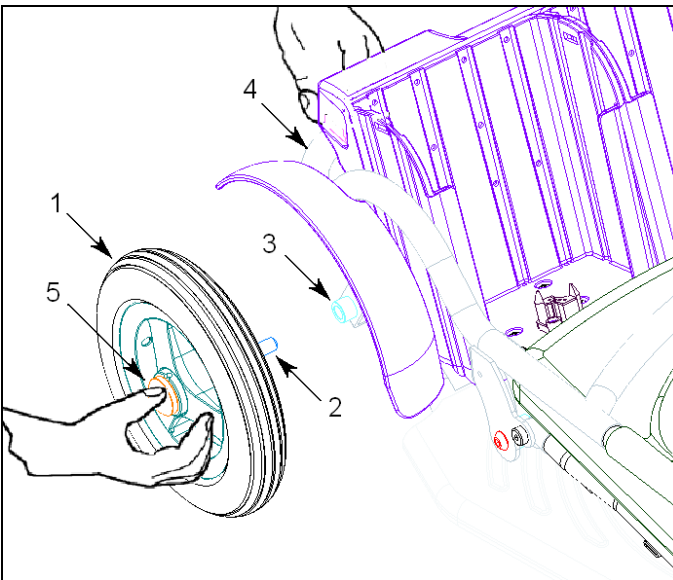

Figure 2
(See **figure 2**) The rear wheel (1) is assembled by means of a so called quick release axle (2) into the wheel mount (3) of the frame (4).
Take the rear wheel in your hand as shown in **figure 2**. Grip the wheel (1) with your fingers through the spokes and depress the button under the rubber cover (5) at the centre of the wheel with your thumb. Lift the frame (4) using your other hand and fully insert the quick release axle (2) into the Wheel mount (3) of the frame, release the button.